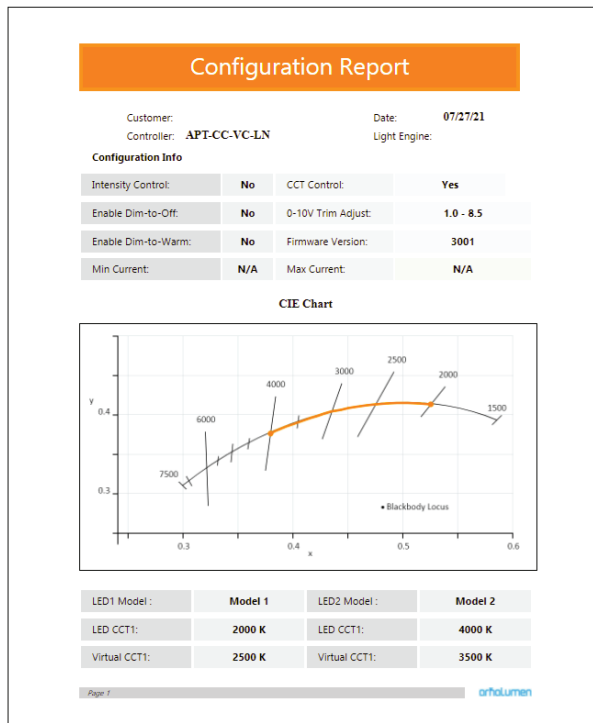

Figure 14: Parts of an Example report
- 5 Click **Generate Report**, the default web browser will open and display a preview of the print (shown in Figure 14).